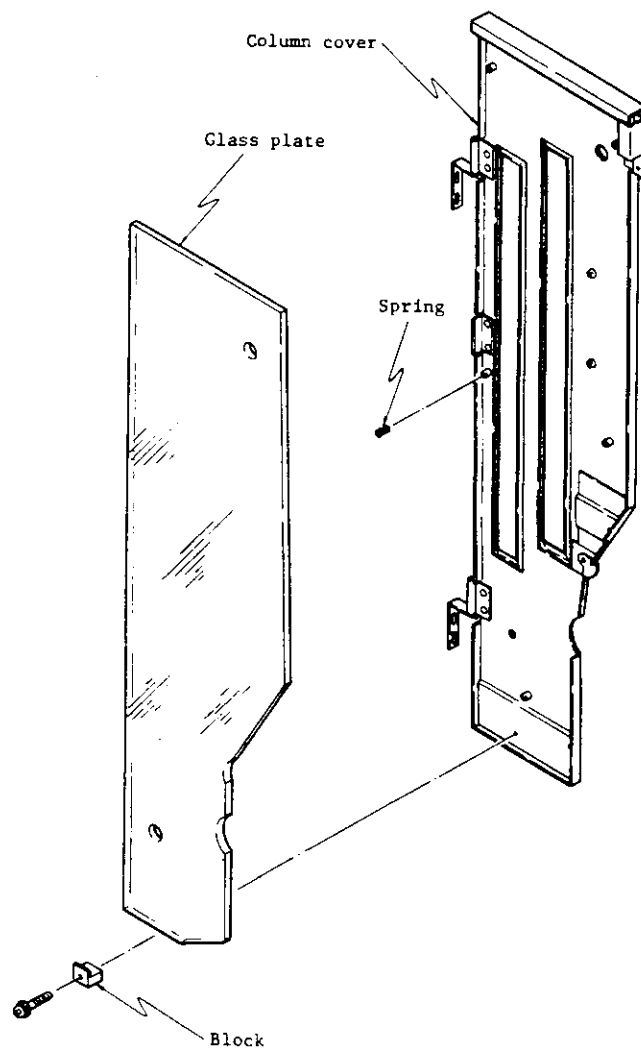

Figure L.30 Vacuum column cover
- (1) Open column cover and remove five glass plate screws (see Figure L.30).
- (2) Remove the spring that holds the glass plate.